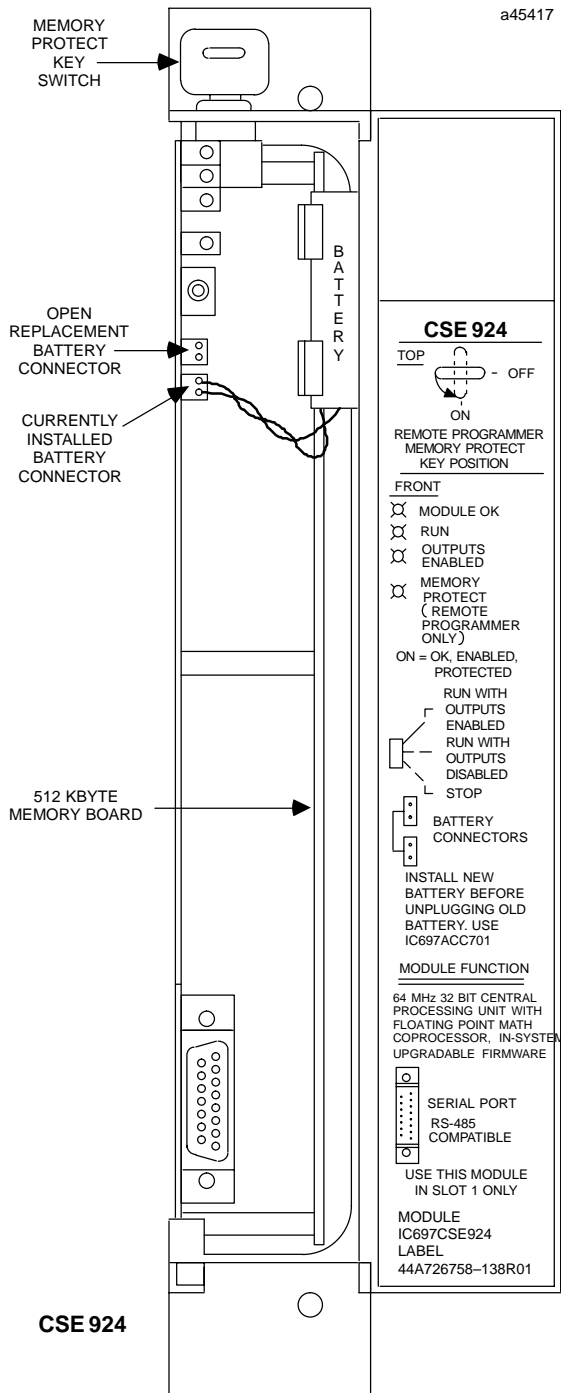

Figure 1. CSE 924 - Location of Major Features
- Connect the battery to either of the battery connectors on the module (see Figure 1).
The 15-pin D-connector provides the connection to an RS-485 compatible serial port on the CPU as shown in Figure 1.
A lithium battery (IC697ACC701) is installed as shown in Figure 1. This battery maintains program and data memory when power is removed and operates the calendar clock. Be sure to install the new battery before removing the old battery. Specific indication of a low battery state is detailed in Reference 2.